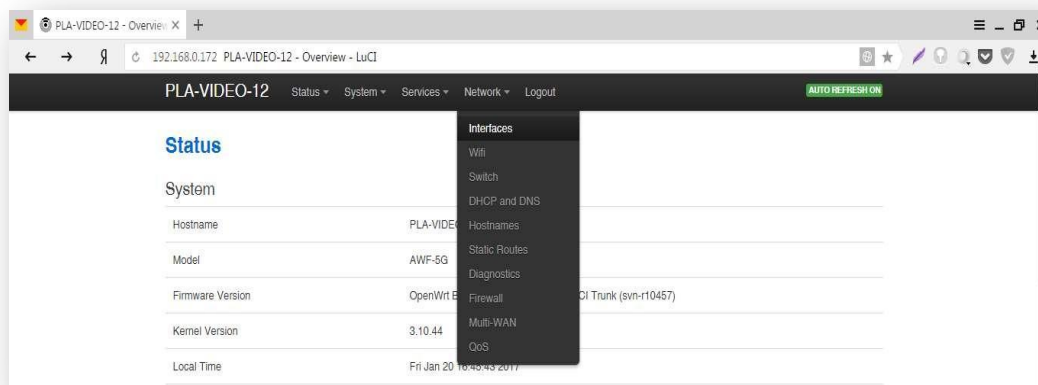

Figure 47. 3G-Router setup
2. Open “Network” ► “Interfaces” (see Fig. 47);